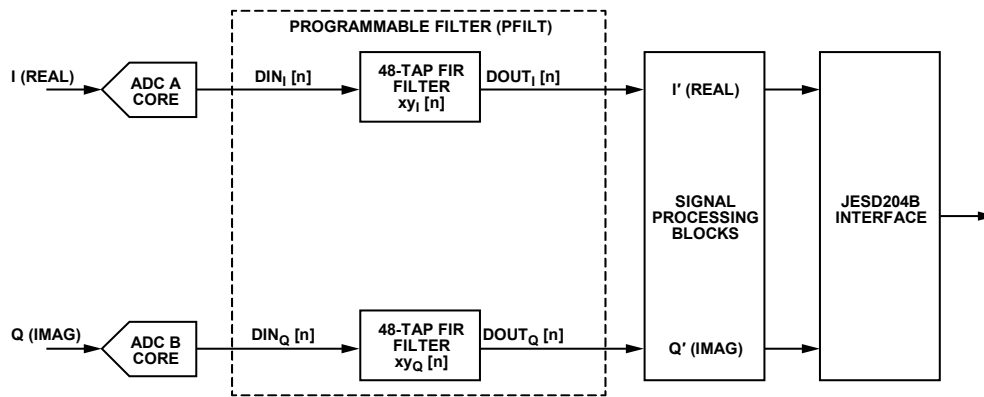

Figure 79. Real 48-Tap Filter Configuration
- Real 48-tap filter for each I/Q channel (see Figure 79)